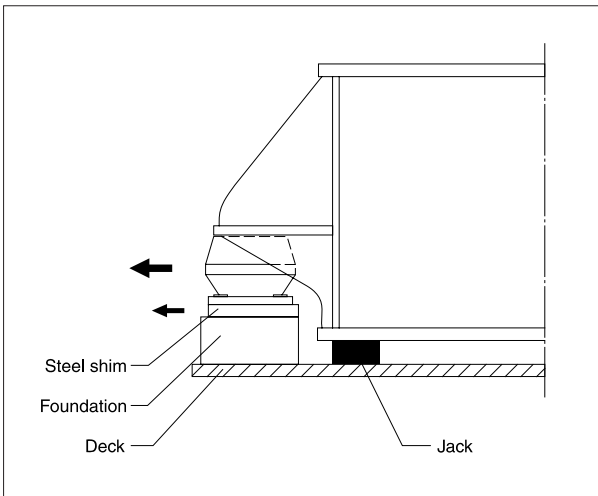

Fig 1 Removal of conicals
2. Mount a jack under the base frame, *see fig 1.*